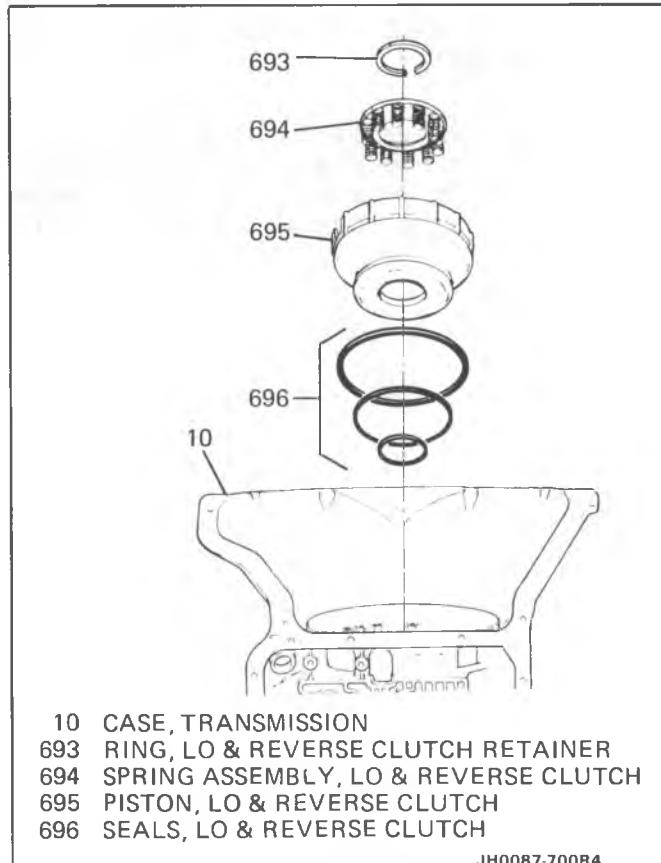

Figure 35 Lo and Reverse Piston
Lo and Reverse Clutch Assembly**Inspect (Figure 35)**
- Lo and reverse piston (695) for
- Piston seals (696) for nicks or cuts
- Spring assembly (694) for damage
- Retainer ring (693) overstressed
**Install or Connect (Figure 35)****TOOLS REQUIRED:**